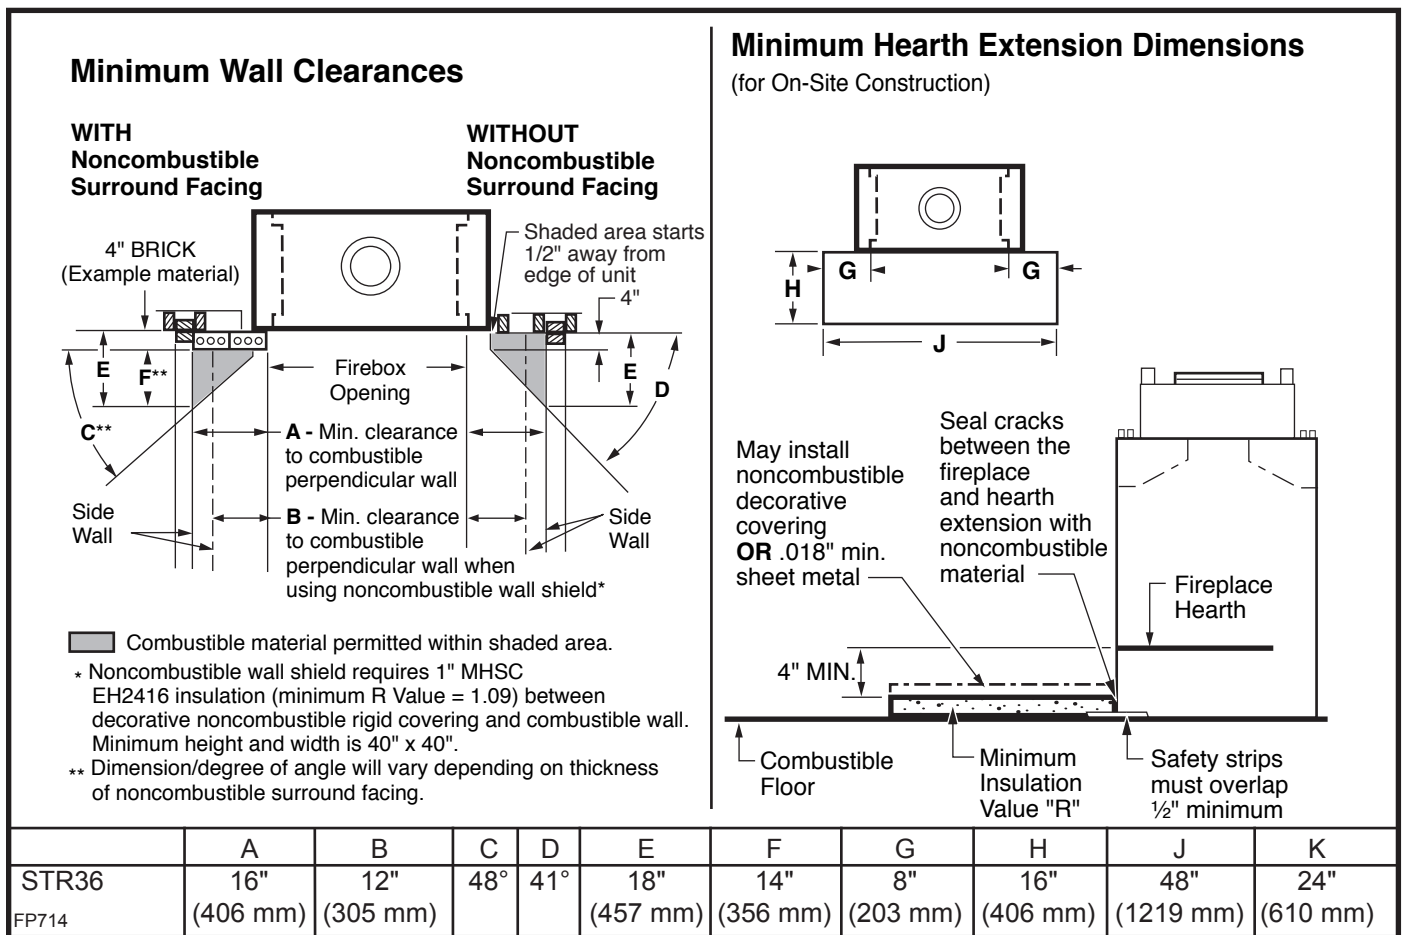

Fig. 24 Combustible side wall protection and hearth extension dimensions.
Often a decorative surround or vertical portion of the mantel is desired. If this is constructed of any combustible material, it must be within the safe zone indicated in Figure 24.
A hearth extension is required to protect a combustible floor in front of the fireplace. Refer to Figure 24 for minimum dimensions and mounting detail.
The hearth extension described in Figure 24 must be a durable noncombustible material with a minimum (total) Rt value of 1.09; refer to Figure 25 for examples. The overall height (above a combustible floor), depth and width must be as indicated, with the extension centered to the fireplace opening.
The top of the insulation material must be covered with a noncombustible decorative covering **or** a piece of .018" minimum sheet metal, to protect hearth extension material. (Fig. 24)
Secure the hearth extension to the floor to prevent shifting, using trim molding or other similar means at three (3) outer edges. Seal crack between the fireplace hearth and hearth extension with a noncombustible material. (Figs. 24 and 26)
WARNING: HEARTH EXTENSION MUST BE INSTALLED IN ACCORDANCE WITH FIGURES 24 AND 25.